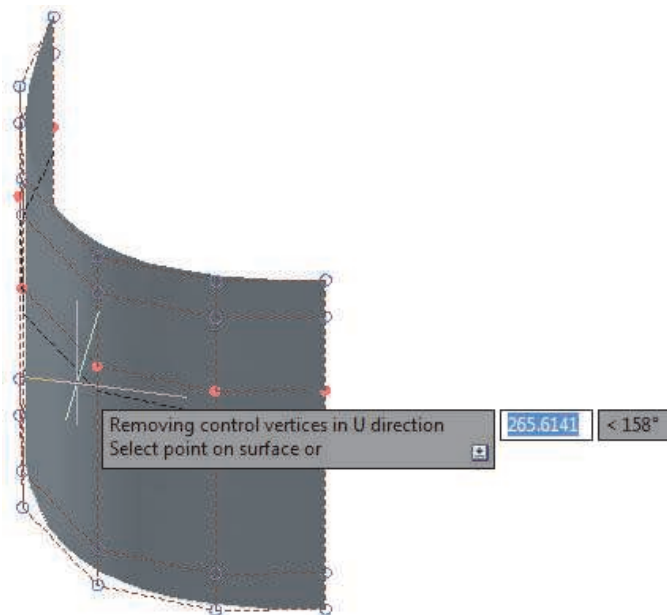

Figure 4–40
3. Select a point on the NURBS surface to specify which set of control vertices in the U-direction to remove, as shown in Figure 4–40. The nearest set of control vertices to be removed highlights in red.